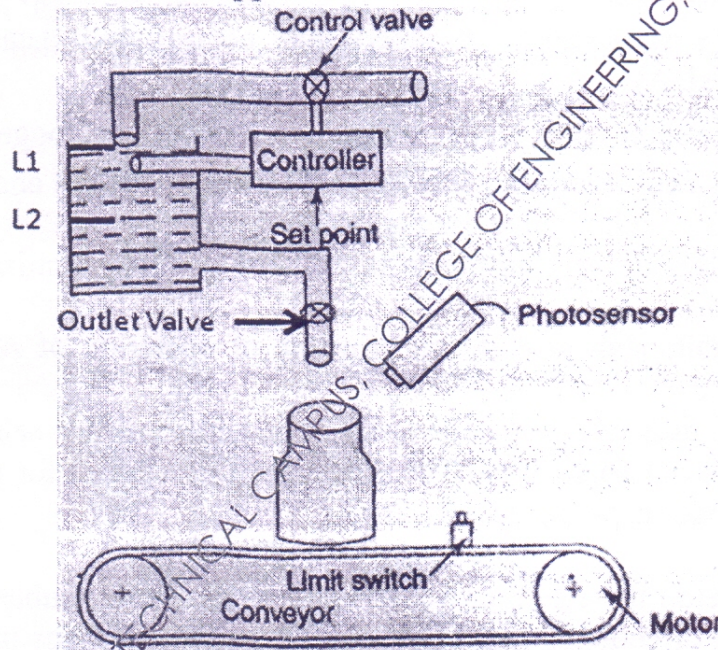

Figure 1
- Q.5(A) With schematic representation explain the mechatronic system typically used in robot for firefighting application (typically highlight the selection of motor, sensors and switches. Also discuss their interfacing. 10
- (B) Describe possible speed control strategies of A.C. Induction motors. 05
- (C) Write a short note on servo amplifier for DC motors 05
Q.6 (A) A process control system illustrated in Figure 1 is used to fill the bottle and convey the same. The outlet valve is opened to fill the bottle and is closed automatically when the photosensor produces the signal as when the bottle is filled. The level of water in the tank is maintained through a control valve. Develop a PLC ladder logic diagram for this control application. 10